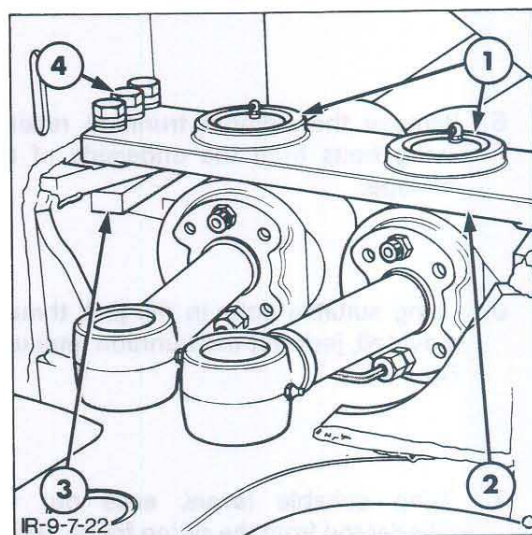

Figure 20
6. Remove the 6 bolts, Figure 20, securing the cylinder trunnion retainer and bushing plate assembly. Collect the loose nut bars.